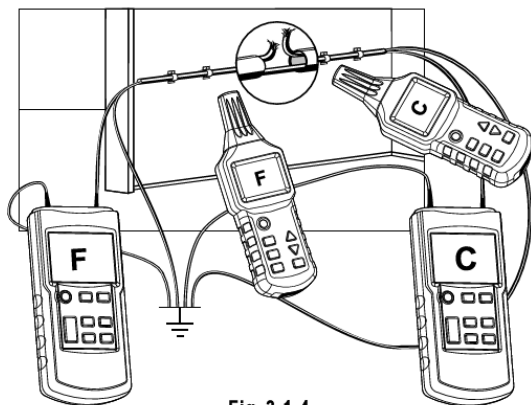

Fig. 3-1-4
- All unused leads must be connected to ground as shown in Fig. 3-1-4.
- Connect and use both transmitters per Fig. 3-1-4.
If the transmitters are connected per Fig. 3-1-4, receiver C will show the line break on the left. If the receiver is moved to the right over the break, it will show F. If you are directly on the break, due to the overlapping of both transmitter signals no line code will be shown.